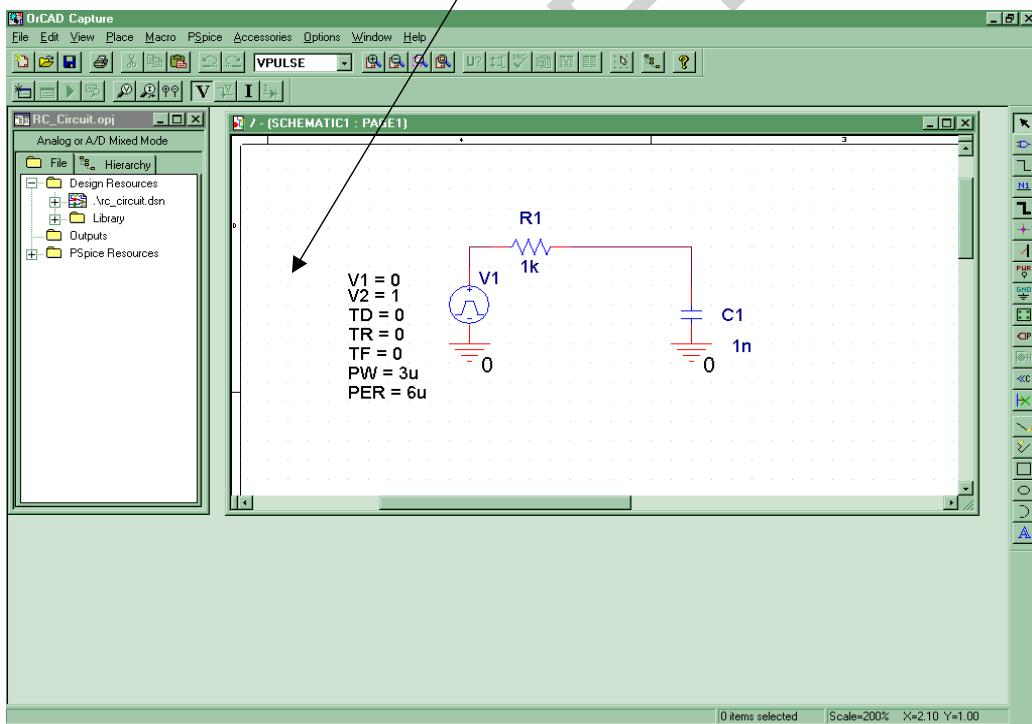

Fig:1
The start with, build the circuit that is illustrated in **Figure 1**. To do this start a new project called RC_Circuit. In so doing, put this project in the subfolder of the temp your desired directory and call it RC_Circuit also. A new factor here is the placing of a capacitor; yet, it works just like the process of placing a resistor. Another new factor is the use of the VPULSE voltage source. How do you place such a part?
- **GO Place→Part** and select the SOURCE library in the dialogue box. Then type in VPULSE as the type of source desired. This will produce a VPULSE symbol, which you can place like other components. Then you can double-click on each parameter listed with this source and fill in the values shown in **Figure: 1 Here it is!** ☺